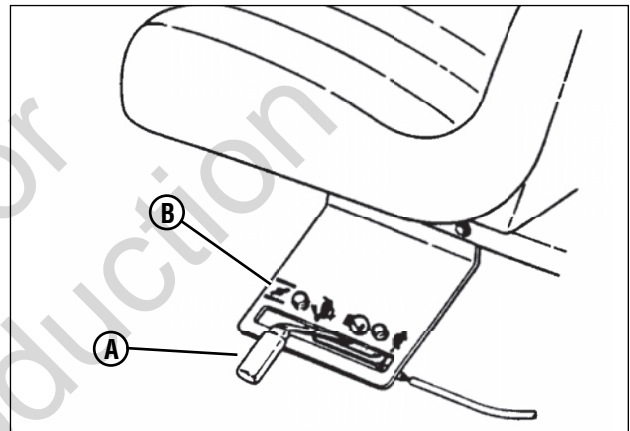

Figure 6: Engine speed control
4. Move the engine speed control (**A, Figure 6**) to the choke position (**B**) to start a cold engine.
4. Move the engine speed control (A, Figure 6) to the choke position (B) to start a cold engine.